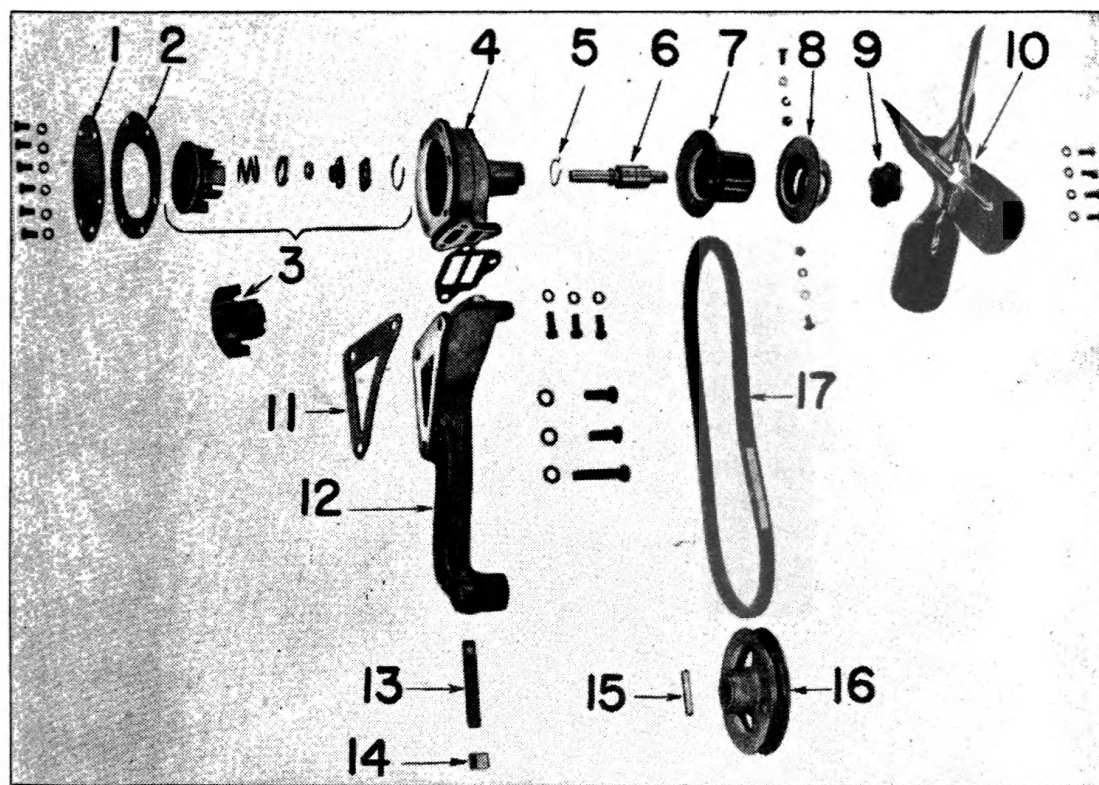

Fig. 31. Details of Water Pump
1. Remove the fan blades No. 10 Fig. 31 by taking out four cap screws that hold fan pulley hub No. 7 Fig. 31 to hub No. 9 Fig. 31 on water pump shaft.
3. Loosen the three cap screws which attach the water pump to the water connection No. 12 Fig. 31 on the front of the engine. Remove the water pump complete as shown in Fig. 10.
1. Remove back plate No. 1 Fig. 31 on water pump housing by taking out six $\frac{5}{16} \times \frac{5}{8}$ inch cap screws. Use care so that gasket No. 2 Fig. 31 is not damaged.
2. Remove impeller No. 3 Fig. 31 by using suitable puller. **Do not drive off** as this will damage end of impeller.
3. Remove snap ring No. 5 Fig. 31 on the fan blade end of bearing and drive out water pump bearing assembly. This should be driven away from the impeller or toward the fan end of pump.
2. If the water pump bearings No. 6 Fig. 31 are worn, a complete new water pump bearing assembly should be installed by pressing into place and re-installing the snap ring No. 5 Fig. 31.